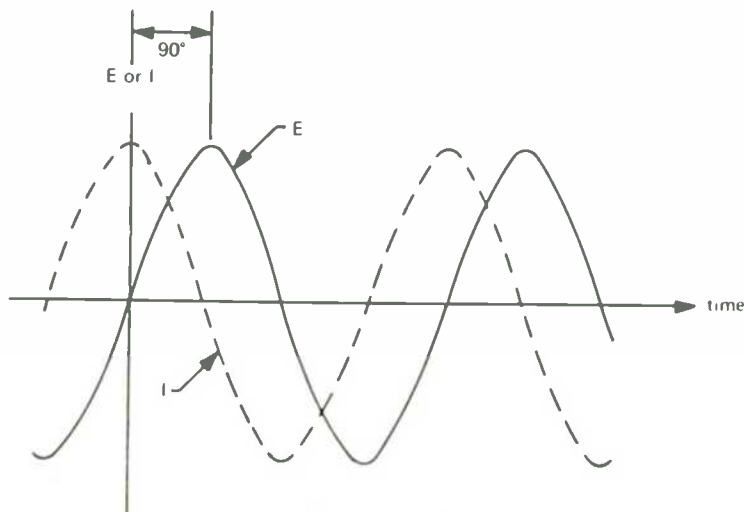

FIGURE 3
**12** Your answer is correct. Opposition to the flow of alternating current in capacitive and inductive circuits is called reactance. For sinusoids, capacitive reactance is expressed in ohms using the formula,  $X_c = \frac{1}{2\pi fC}$ . Capacitive reactance has a different value for each frequency and decreases as the frequency increases. For purely capacitive circuits, reactance is treated similar to resistance. Thus Ohm's law can be applied as  $E = IX_c$  and the reactances added in series or parallel like resistors. Note that reactance is treated like a resistance, not the capacitor. An important difference exists, however, between resistive and reactive circuits. For reactive circuits, current and voltage changes are not in step and the two are said to be out of phase. In a circuit containing only capacitors the current leads the voltage by 90°. Waveforms illustrating the leading phase angle are shown in Figure 3.